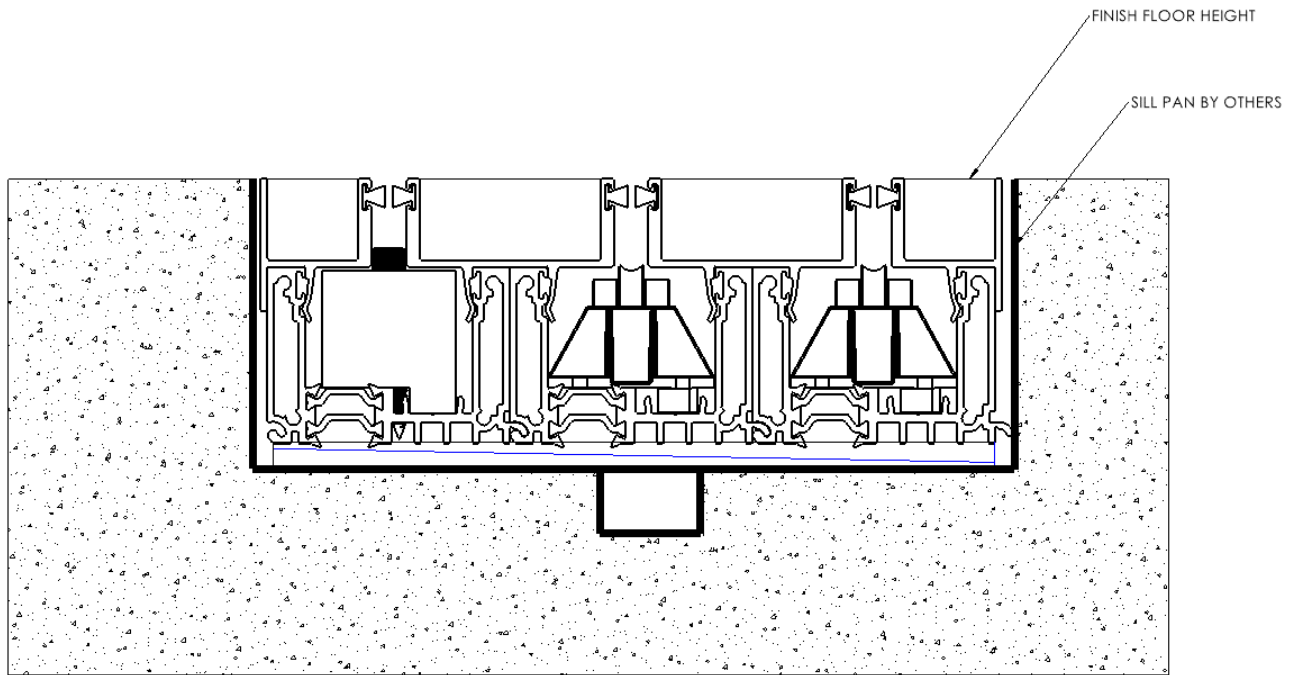
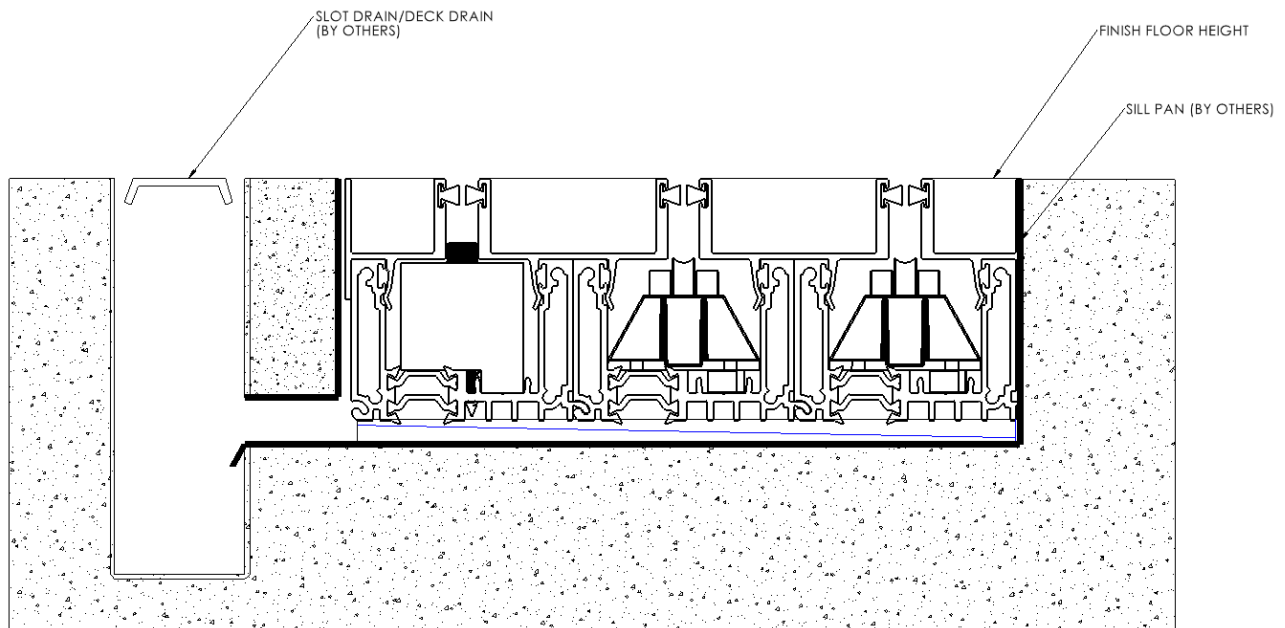

Figure 6
Figure 7
- Front Weep with pan and drain by others (See **Figure 6**)
- Front weep with deck drain and pan by others (See **Figure 7**)
9. **Front Weep Sills** - Sills that have a weep slot located on the bottom surface 6" from each end and 6" from each stagger location will allow water to drain out the bottom of the sill directly into a water management system supplied by others, such as a sill pan or equivalent. See Figure 6. If a slot drain or similar system is used, the door sill pan can be drained into the slot drain. Ensure that the slot drain bottom is adequately below the sill pan to ensure water only flow away from the sill. See **Figure 7**. Skip to step 10.